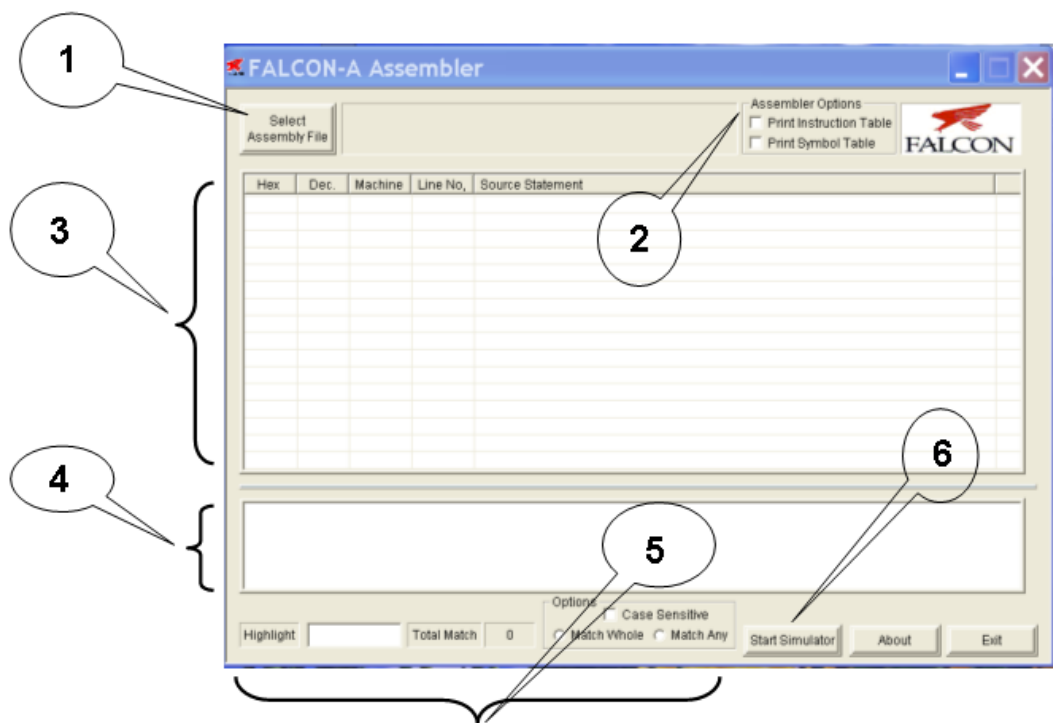

Figure 1
Figure 1 shows a snapshot of the graphical user interface (GUI) for the FALCON-A Assembler. This tool loads a FALCON-A assembly file with a (.asmfa) extension and parses it. It shows the parsed results in an error log, lets the user view the assembled file's contents in the file listing and also provides the features of printing the machine code, an Instruction Table and a Symbol Table to a FALCON-A listing file. It also allows the user to run the FALCON-A Simulator.
*Select Assembly File:* Labeled as “1” in Figure 1, this feature enables the user to choose a FALCON-A assembly file and open it for processing by the assembler.
*Assembler Options:* Labeled as “2” in Figure 1.
*List File:* Labeled as “3”, in Figure 1, the List File feature gives a detailed insight of the FALCON-A listing file, which is produced as a result of the execution of the 1st and 2nd-pass. It shows the Program Counter value in hexadecimal and decimal formats along with the machine code generated for every line of assembly code. These values are printed when the 2nd-pass is completed.
*Error Log:* The Error Log is labeled as “4” in Figure 1. It informs the user about the errors and their respective details, which occurs in any of the two passes of the assembler. The size of this window can be changed by dragging the boundary line up or down.
*Highlight:* This feature is labeled as “5” in Figure 1 and helps the user to search for a certain input with the options of searching with “**match whole**” and “**match any**” parts of the string. The search also has the option of checking with/without considering “**case-sensitivity**”. It searches the List File area and highlights the search results using the yellow color. It also indicates the total number of matches found.
*Start Simulator:* This feature is labeled as “6” in Figure 1. The FALCON-A Simulator is run using the FALCON-A Assembler’s “Start Simulator” option. Its features are detailed as follows:
- To start FALSIM (the FALCON-A assembler and simulator), double click on the FALSIM icon. This will display the assembler window, as shown in the Figure 1.